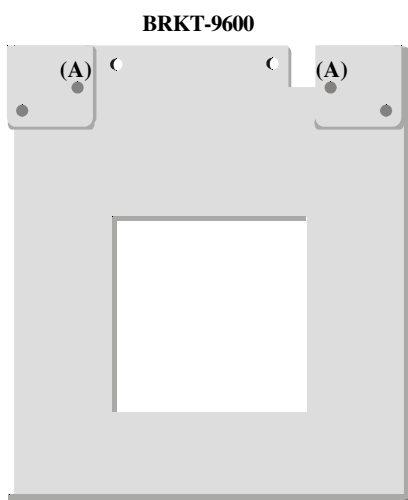

Figure 1: Universal Bracket (front view)
1. Install the two supplied standoffs in location (A) as indicated in Figure 1